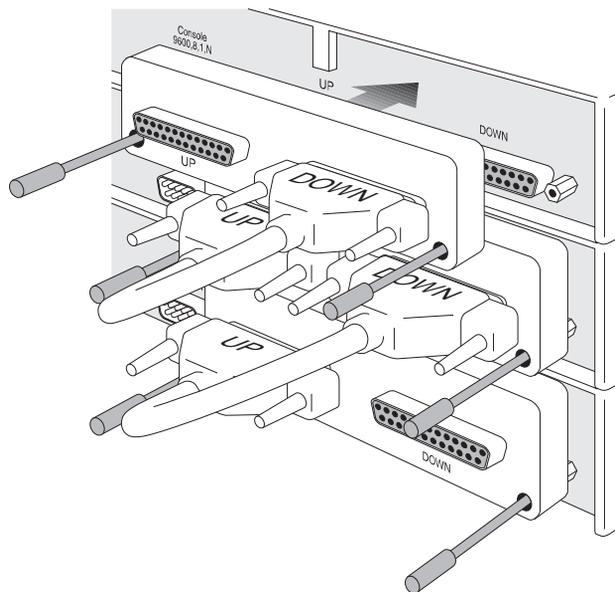

Figure 3-6 Connecting PS Hubs Together Using Hot Swap Cascade Units
- 4 Continue up the stack, repeating step 3 for each unit, as shown in Figure 3-6.